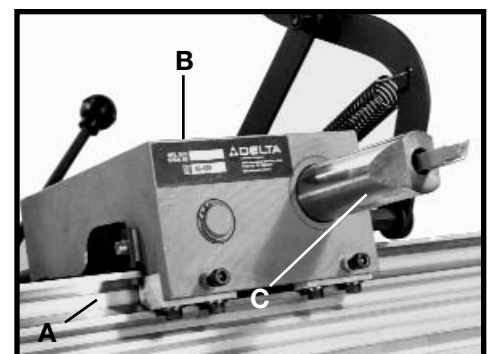

Fig. 79
After a period of approximately 100 hours of operation, use a light greaseless lubricant in the channels (A) Fig. 79 of the duplicator guide rails to keep the carriage assembly (B) operating to its full capabilities. At the same time, treat the tool advancement arm (C) with a light coating of greaseless lubricant to prevent friction.